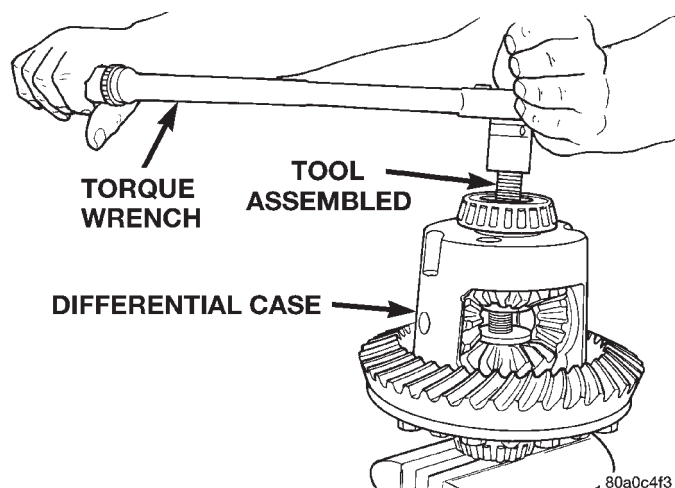

Fig. 50 Tighten Belleville Spring Compressor Tool
(9) Tighten forcing screw tool 122 N·m (90 ft. lbs.) (maximum) to compress Belleville springs in clutch packs (Fig. 50).